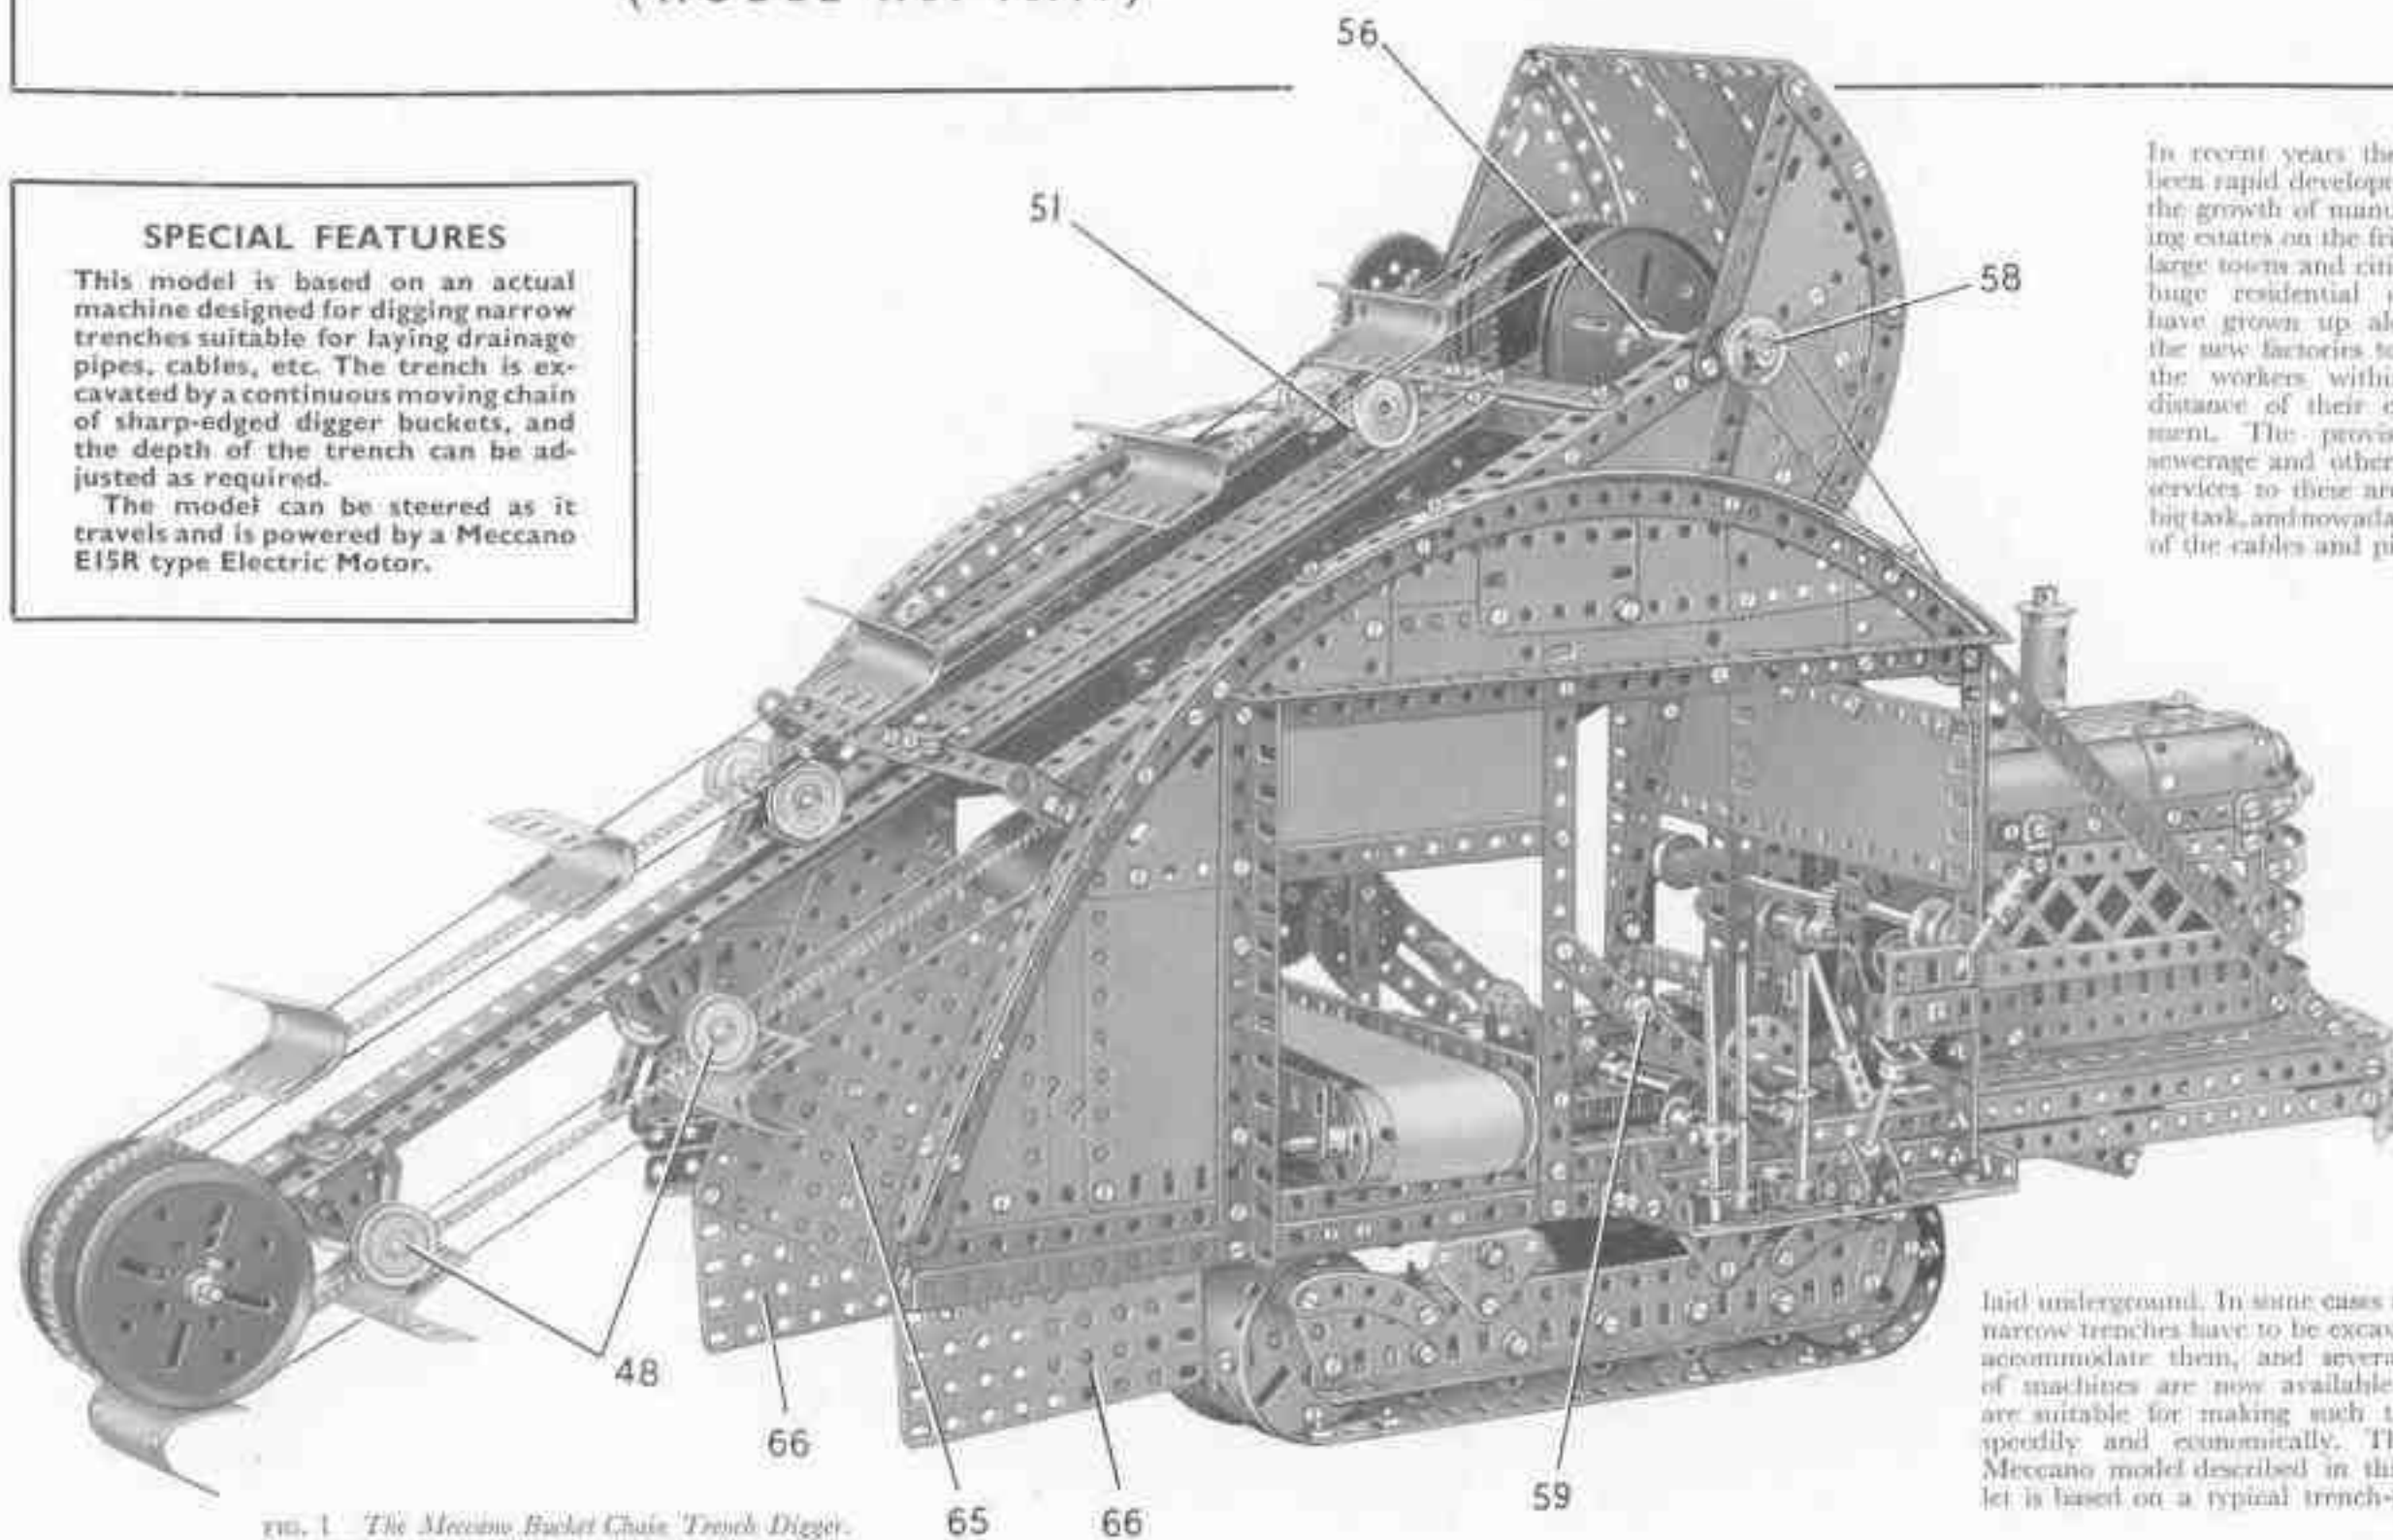

FIG. 1. The Meccano Bucket Chain Trench Digger. Its construction is fully described in this Leaflet.
Supporting Frame for the Bucket Boom (Figs. 1, 5, 7 and 8)
Drive to the Boom Winding Drums (Figs. 1, 5, 6, 7 and 8)
Arrangement of the Steering Mechanism (Figs. 1, 2 and 3)
Details of the Tracks and Track Guards (Figs. 1, 2 and 7)
Construction of the Boom and the Bucket Chain (Figs. 1, 4 and 7)
an angle as shown (Fig. 1), is connected to the main chassis girder by a 1 " x 1 " Angle Bracket and to the Girder (1) by a 1 " Reversed Angle Bracket. Two $5\frac{1}{2}$ " x $3\frac{1}{2}$ " Flat Plates, overlapped two holes lengthways, are attached to the rear edges of the Flat Plates (65) by means of Angle Brackets.
(Figs. 1, 3 and 7)